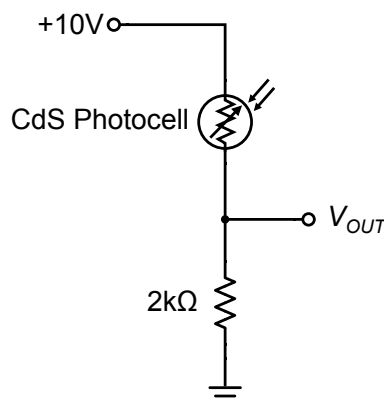

Figure 3 – A CdS photocell is wired up in a voltage divider circuit. The output voltage V_{OUT} depends on the light intensity incident on the photocell.
1. Sketch the circuit diagram shown in Figure 3 in your lab notebook.
5. Use the breadboard to create the photocell voltage divider circuit shown in Figure 3.
8. Compare the resistances and voltages to Eq. (1). Do the values make sense?